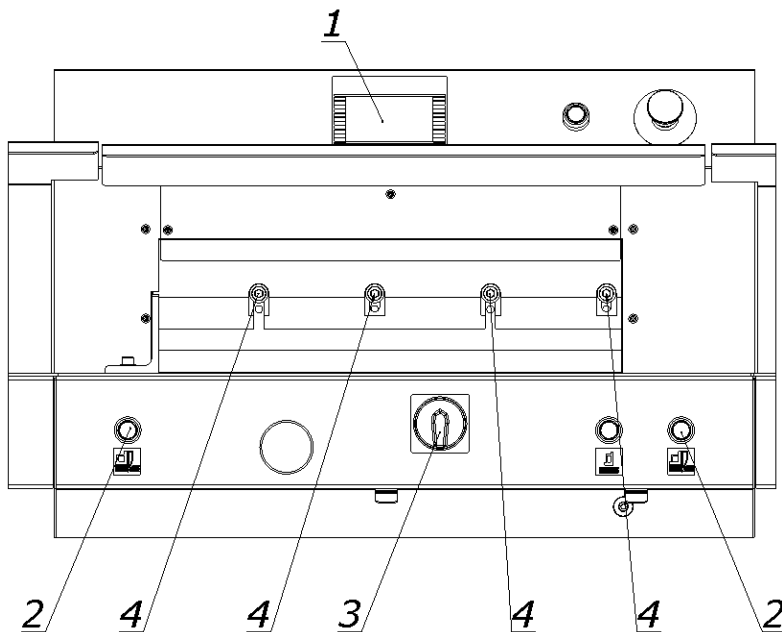

Figure 33.
8.1.2.9 Pressing the push buttons 2 (Fig. 33) at the same time, start the cutting cycle. The knife will stop in the lower position.
8.1.2.10. Switch off the power supply of the electrical system by turning the main switch knob 3 (fig. 33) to the "0" position
8.1.2.11. Remove (loosen) the fixing screws 4 (fig.33) so that the knife falls under its own weight on the base bar with its entire length.
8.1.2.12. Tighten the adjustment screws 5 (fig. 33) as far as they will go, so that the blade of the knife is cut into the base bar, approx. 0.3 mm.
8.1.2.13. Tighten the fixing screws 4 (figure 33)
8.1.2.14. Switch on the power supply of the electrical system by turning the main switch knob 3 (fig. 33) to position "I".
8.1.2.15. Turn off the "knife change" function on the programmer 1 (fig.33)
8.1.2.17. Turn off the power supply of the electrical system by turning the main switch knob 3 (fig. 33) to the "0" position
8.1.2.19. Turn on the power supply of the electrical system by turning the knob of the main switch 3 (fig.33) to position "I"